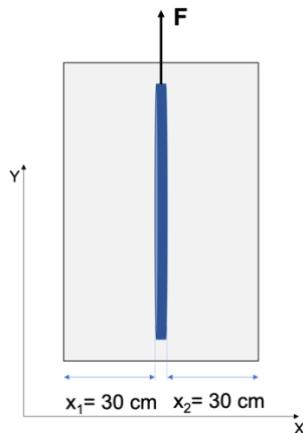

Figure 3
a) Look at Figure 3 below. Can you estimate the **velocity** at which the window is pulled out when it is still submerged?